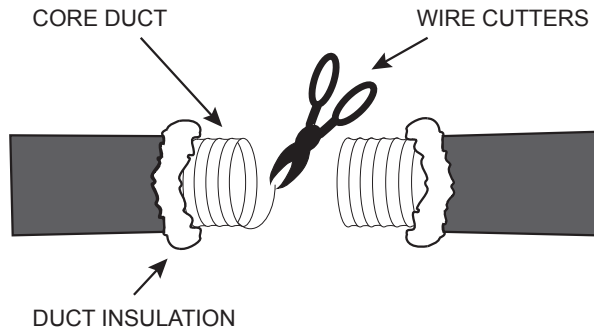

Figure 5.
- Using a pair of wire cutters, cut the wire inside the core duct. Fold the insulation jacket back away from the core duct see Figure 5.